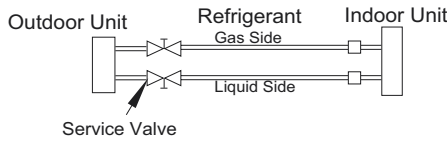

Fig. 36 — Service Valve
1. Completely tighten flare nuts A, B, C, D and connect the manifold gage charge hose to a charge port of the low side service valve (see Fig. 36).